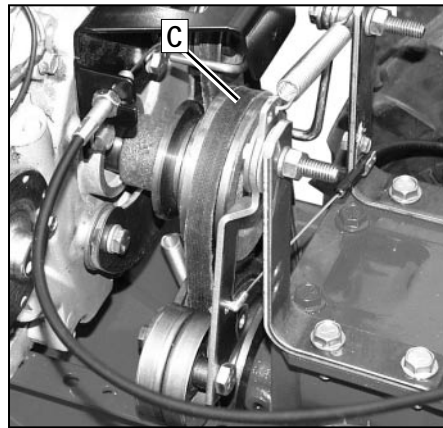
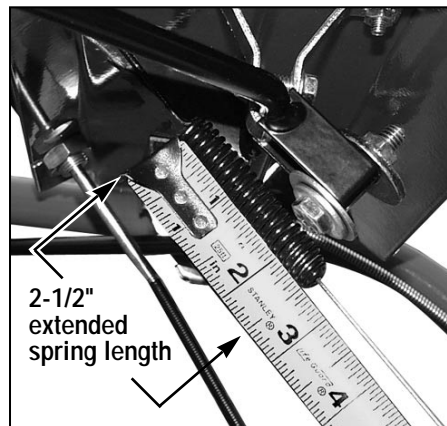

Figure 5-9: Forward clutch belt. (C, Left-side view, no belt cover.)
Figure 5-10: Correct spring length when Forward Clutch Levers are engaged is 2-1/2".
It is important to maintain correct tension on the forward clutch belt (C, Figure 5-9). A loose belt will cause the tines and wheels to slow down – or stop completely – even though the engine is running at full speed. A loose belt will also result in premature belt wear.
2. The coiled part of the forward clutch spring (E, Figure 5-9) measures 2" in length when the Forward Clutch Control Levers are not pulled up. Pull either Forward Clutch Control Lever up against the handlebar and measure the length of the coiled part of the forward clutch spring. Tension is correct if the length of the extended coil is 2-1/2" (see Figure 5-10). The forward clutch cable needs adjustment if length of the extended coils is less than 2-1/2". See *Adjusting the Forward Clutch Belt* for a procedure. If the extended length is more than 2-1/2", there is no need to adjust as long as the unit operates correctly when moving Forward.
4. Hand tighten the jam nuts and pull the Forward Clutch Control levers up against the handlebar. Measure the coiled part of the spring (Figure 5-10). The length of the extended coil should be 2-1/2". Repeat this procedure until the extended spring length is correct.